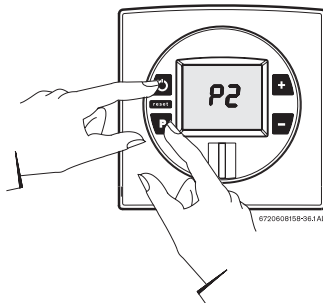

Fig. 54
- ▶ While holding the Program (P) button in, press the ON/OFF button to turn ON the heater (see Fig. 54). As soon as '188' flashes on the display, release the Program button. The display should now read P2. Press **+** button until "P1" appears on display.